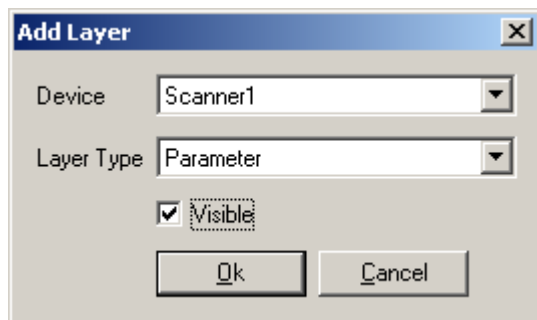

Figure 10-6 Add Layer dialog box
- 4) Select the **Visible** check box, as shown in Figure 10-6.